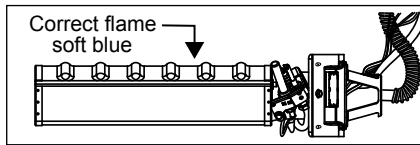

Figure 39 - Burner Flames
- Inspect the burner flames through the viewport and compare them to Figure 39. Flames should be very small with a blue haze and small amounts of yellow or orange at the edges. After several minutes of operation, the burner screen may glow red. If large flames are observed at any time, shut-off unit and call a qualified person.